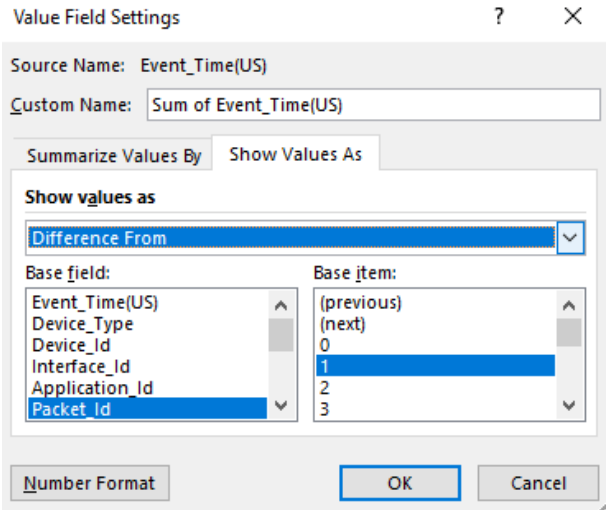

Figure 1-12: Select Show Values as Difference From
8. Select **Show Values As** option and filter it to **Difference From** as shown Figure 1-12.